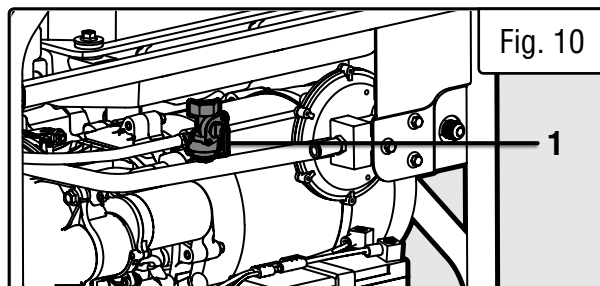

Fig. 10
1. To use gasoline, turn the fuel valve (Fig. 10 - 1) to the ON position. To use LPG, make sure all of the LPG connectors and hoses are well connected and sealed. Turn the fuel valve to the OFF position, then open the LPG tank valve.